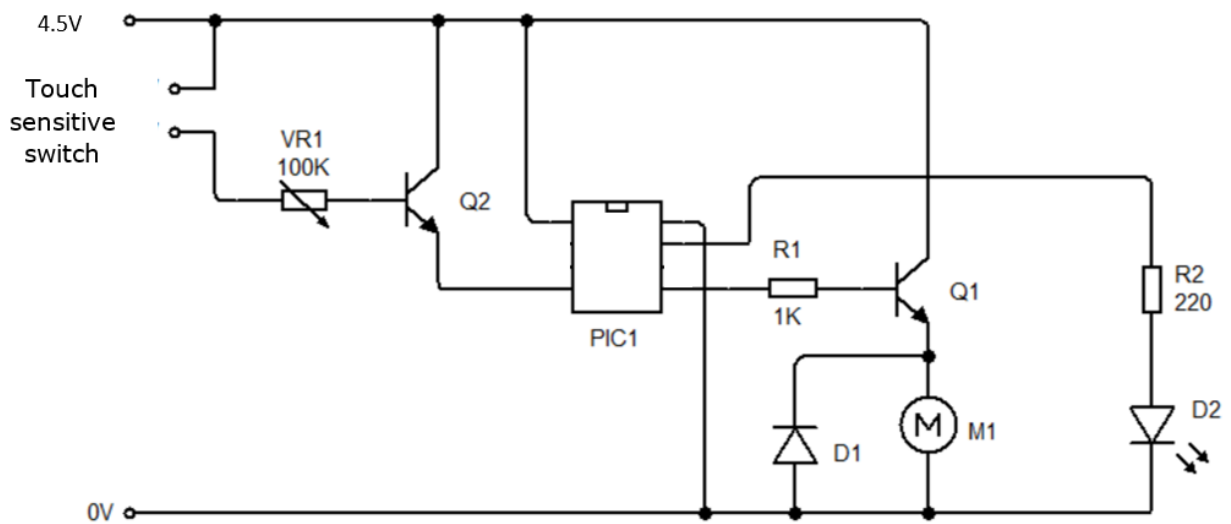
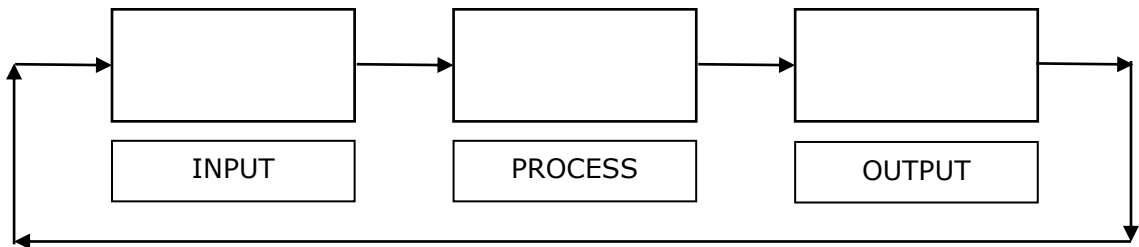

Figure 12
Figure 13
In order to achieve this function, a microcontroller circuit was developed, as shown in Figure 12.
a. From the given word bank, underline the name of component Q2 used in Figure 12.
c. On Figure 13, fill in the block diagram, according to the circuit shown in Figure 12 and by using the following word bank.